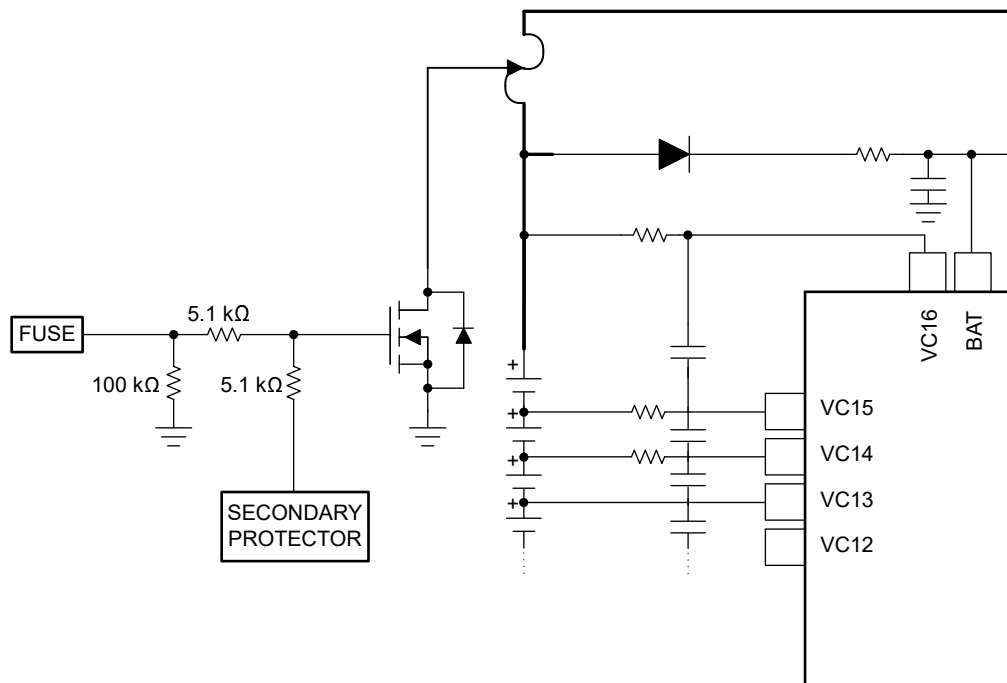

Figure 7-6. FUSE Pin Operation
The FUSE pin on the BQ76972-Q1 device can be used to blow a chemical fuse in the presence of a Permanent Fail (PF), as well as to determine if an external secondary protector in the system has detected a fault and is attempting to blow the fuse itself. The pin can drive the gate of an NFET, which can be combined with the drive from an external secondary protector, as shown in Figure 7-6. When the FUSE pin is not asserted by the BQ76972-Q1 device, it remains in a high-impedance state and detects a voltage applied at the pin by a secondary protector. The device can be configured to generate a PF if it detects a high signal at the FUSE pin.